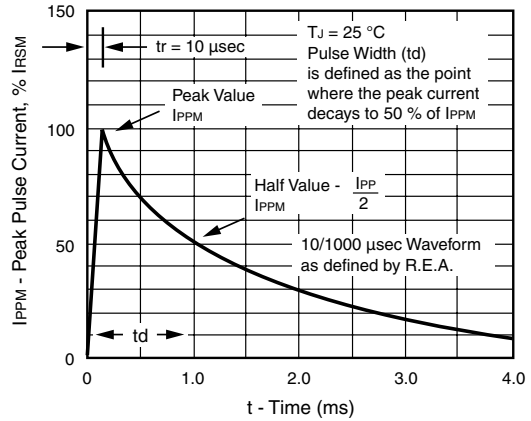
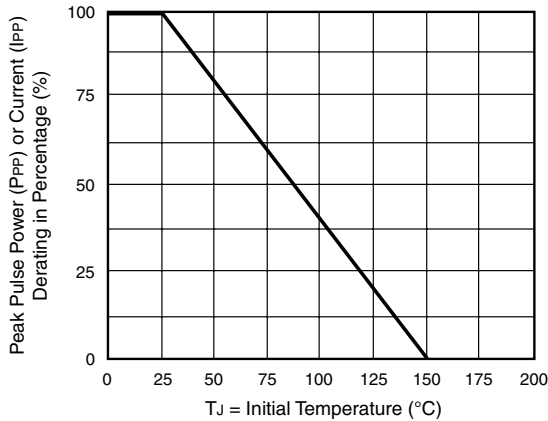

Figure 3. Pulse Waveform
Figure 2. Pulse Derating Curve
(1) Non-repetitive current pulse, per Fig. 3 and derated above $T_A = 25$ °C per Fig. 2
(2) Mounted on 0.2 x 0.2" (5.0 x 5.0 mm) copper pads to each terminal
(3) Pulse test: 300 μ s pulse width, 1 % duty cycle
(2) Surge current waveform per Fig. 3 and derate per Fig. 2
(3) All terms and symbols are consistent with ANSI/IEEE C62.35